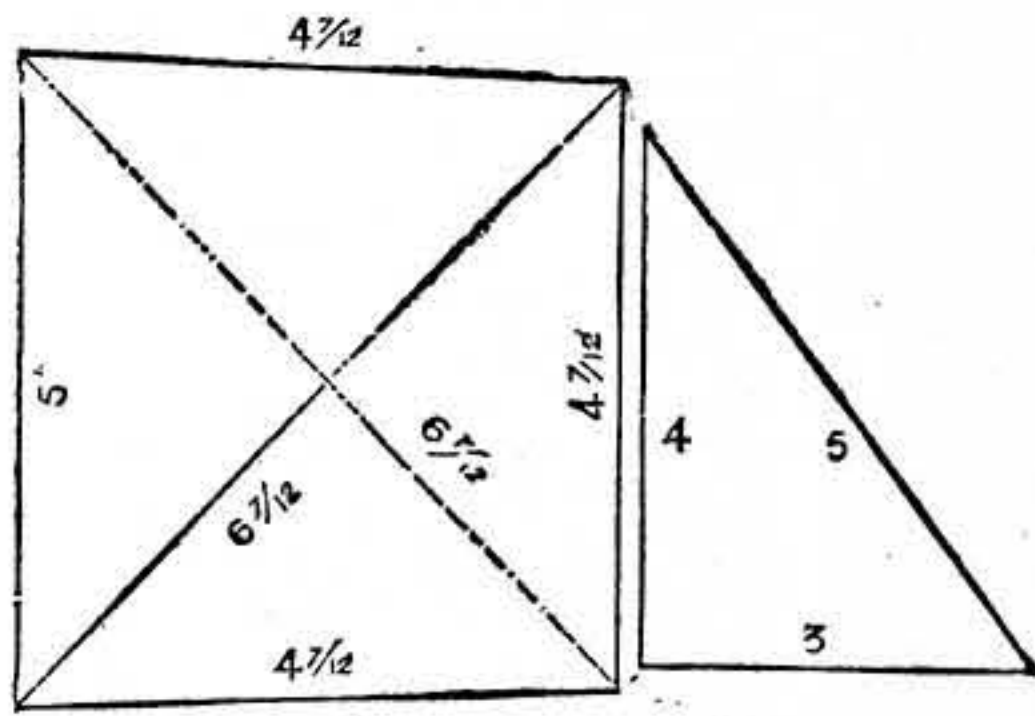

Fig. 1 Fig 2
**Testing the Accuracy of Framework.**—J. C. K. (London, N.W.) writes:—"In WORK, p. 326, I read a simple way of testing the accuracy of framework by two diagonal measurements, having seen a similar statement, almost, in WORK, May 2, 1891, thus: 'And a final check on its accuracy taken by measuring it across diagonally from corner to corner, when, if both diagonals are equal, the board will be square.' Though I do not think anyone will be misled into testing for squareness by this erroneous plan, I venture to send a sketch of a trapezoid, which has, at Fig. 1, a base line and two lines nearly at right angles to it, forming ends or sides, each line exactly  $4\frac{7}{8}$  in. long and 5 in. on the top or opposite parallel line or side of an assumed